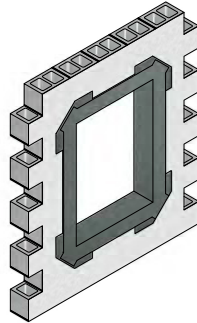

Figure 10
7. Apply a generous receiving coat of well-mixed MasterSeal AWB 660/MasterSeal AWB 665/MasterSeal AWB 660 I to the sill. (See Figure 10).